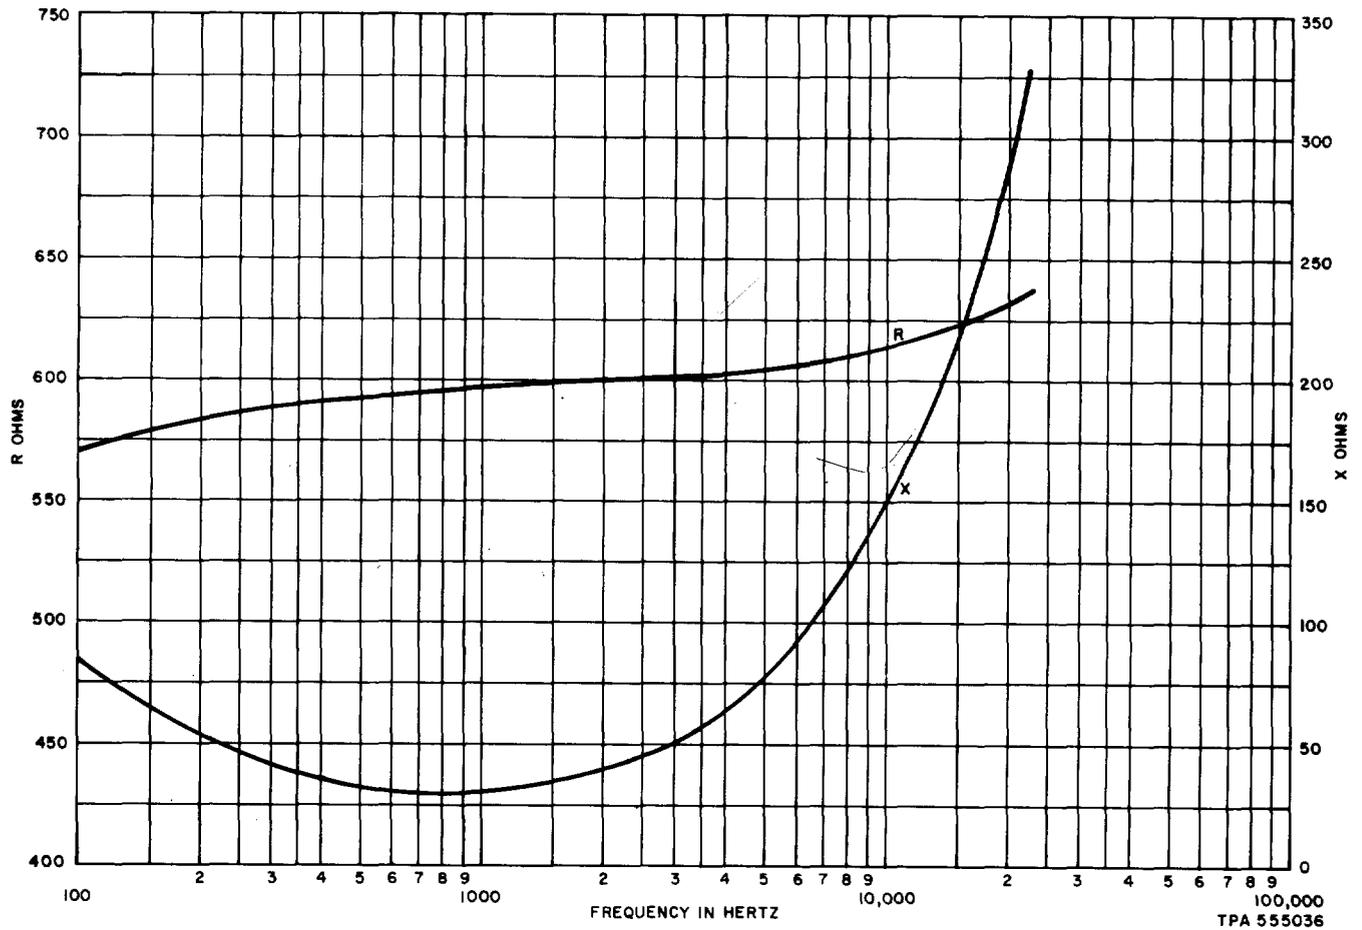

Fig. 4—F58122 Amplifier—Input Impedance—600-Ohm Termination
4.05 This amplifier presents a nominal input and output impedance of either 600 or 1200 ohms, and it may present 600 ohms to the input equipment and 1200 ohms to H88-loaded exchange cable pairs. The reverse may be to present 1200 ohms to the input circuit and 600 ohms to the output circuit. The input and output impedance (600- or 1200-ohm termination) at various frequencies is shown in Fig. 4, 5, 6, and 7.